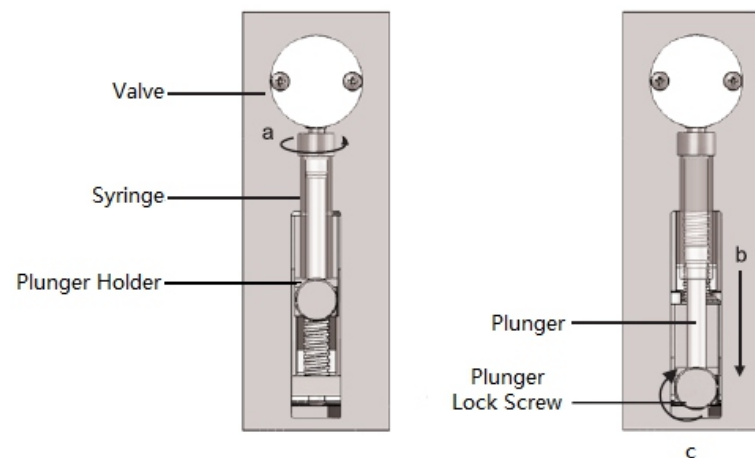

Figure 5-1 Syringe Replacement
- 6 To install the syringe (as shown in Figure 5-1)